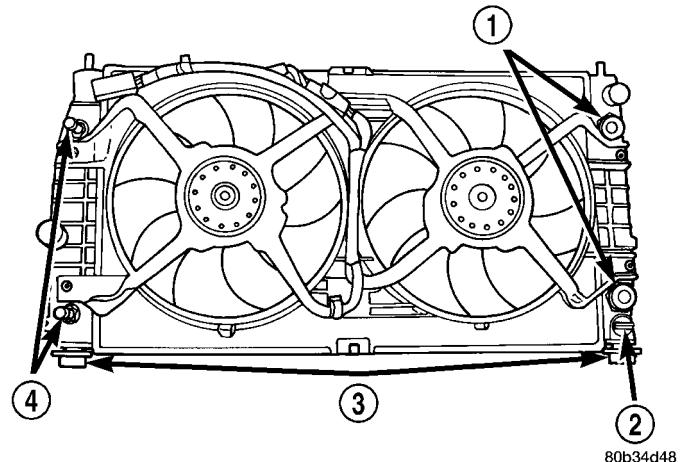

Fig. 15 RADIATOR
(2) Drain cooling system. (Refer to 7 - COOLING - STANDARD PROCEDURE)
(3) Remove radiator upper crossmember. (Refer to 23 - BODY/EXTERIOR/GRILLE OPENING REINFORCEMENT - REMOVAL)
(4) Remove upper and lower coolant hoses from the radiator.
(5) Disconnect transmission hoses from cooler and plug (Fig. 15).
(6) Disconnect engine oil cooler lines (if equipped) (Fig. 15).
(1) Position radiator into engine compartment. Seat the radiator assembly lower rubber isolators into the mounting holes in radiator lower support (Fig. 15).